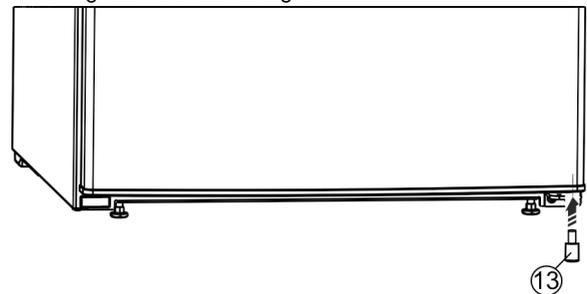

Fig. 27 *
- ▶ Re-insert the spacer Fig. 27 (13) on the right bottom into the door, because it is important for the stability of the appliance.*